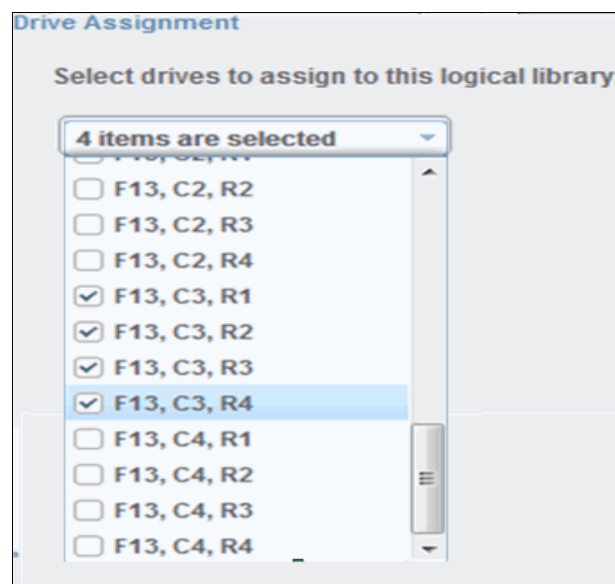

Figure 4-141 Custom drive settings
3. Use the Drive Assignment page to configure drives for the logical library, as shown in Figure 4-141. You can select all unassigned drives or select only the drives that you need. Only the unassigned drives of the type that was selected (LTO or 3592) are displayed.